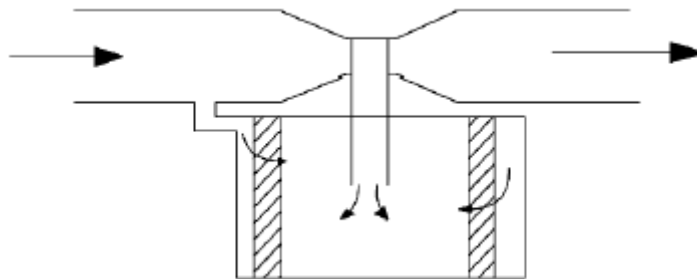

Figure 2.5 - Proportional filter
- **Proportional filters (bypass filters):** In some hydraulic system applications, only a portion of oil is passed through the filter instead of entire volume and the main flow is directly passed without filtration through a restricted passage (Fig. 2.5).